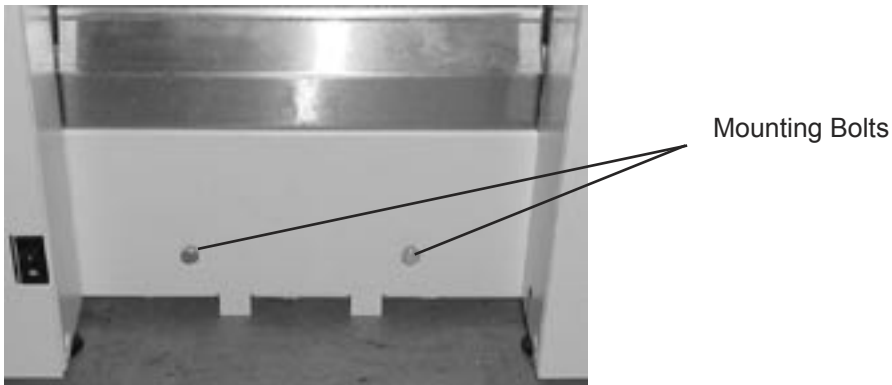

Figure 4
5. Install conveyor mounting bolts (figure 4).